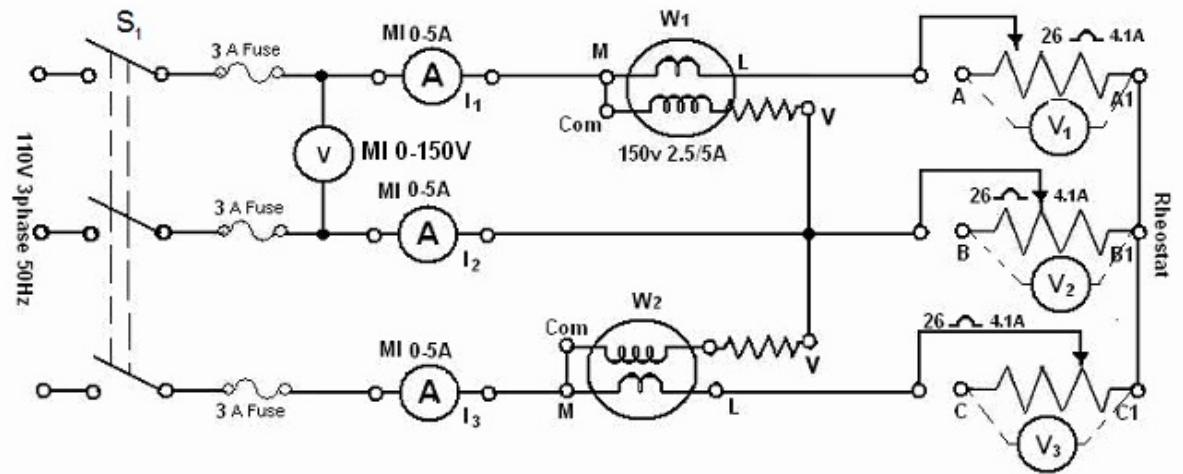

Fig. 2. Three phase power measurement circuit under unbalance condition
1. Connect the circuit as shown in Fig. 2.